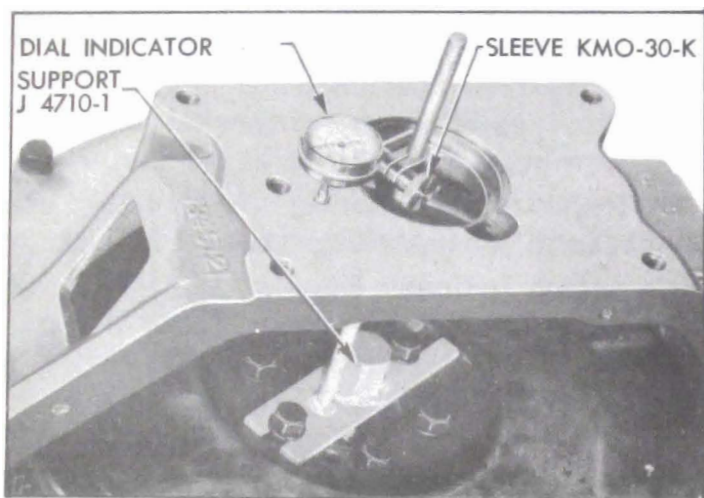

Figure 4-17—Checking Run-Out of Rear Face of Housing
7. Mount dial indicator to bear against rear face of flywheel housing at a radius of $2\frac{1}{2}$ ", as shown in figure 4-17.